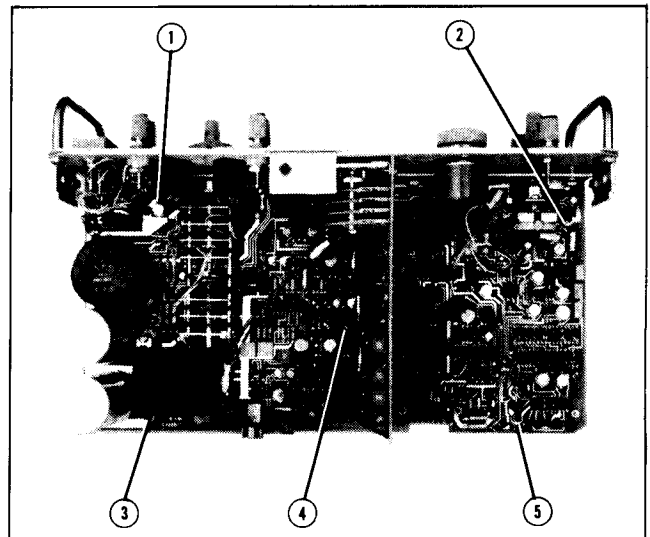

Figure 5-16. Shield Removal.
b. Turn the unit over to obtain access to the component side of the A3 board and remove the five phillips head screws shown in Figure 5-16. The shield should now be loose and can be easily removed.